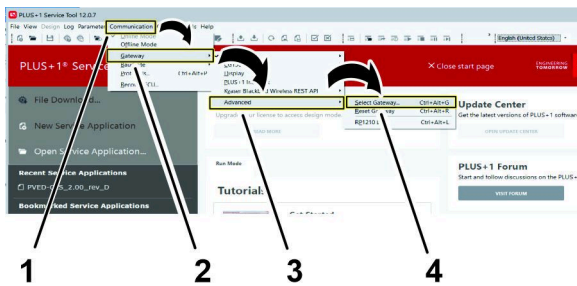

Figure 39
6. On the ribbon bar, click the Communication button (Figure 39).
7. In the Communication drop-down menu, click the Gateway button (Figure 39).
8. In the Gateway drop-down menu, click the Advanced button (Figure 39).
9. In the Advanced drop-down menu, click the Select Gateway... button (Figure 39).